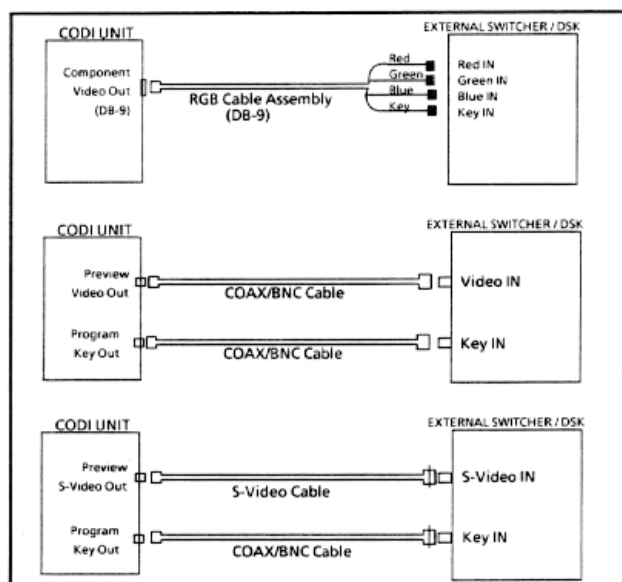

Figure 2-13. Cabling CODI to an External Switcher/DSK
The **PGM KEY OUT** or the Component **ALPHA/KEY** channel (black colored BNC on the (4) wire Component RGB-K cable assembly) would also be routed along with the CODI **PREVIEW** video to provide the required transparency or Key signal to the external Switcher/DSK. Both the **PGM KEY OUT** and Component **ALPHA/KEY** are linear key signals. The following diagram (Figure 2-13) illustrates the methods of using CODI with an external Switcher or Down Stream Keyer(DSK).